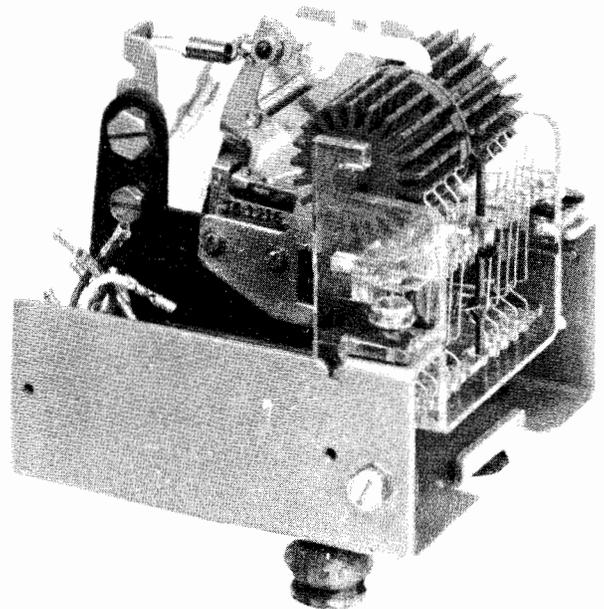

Figure 1 - 37 Answer-Back Unit
1.01 This section provides lubrication procedures for the early design 37 answer-back unit (Figure 1), and is reissued to incorporate changes in the lubrication requirements. Marginal arrows have been included to indicate these changes.